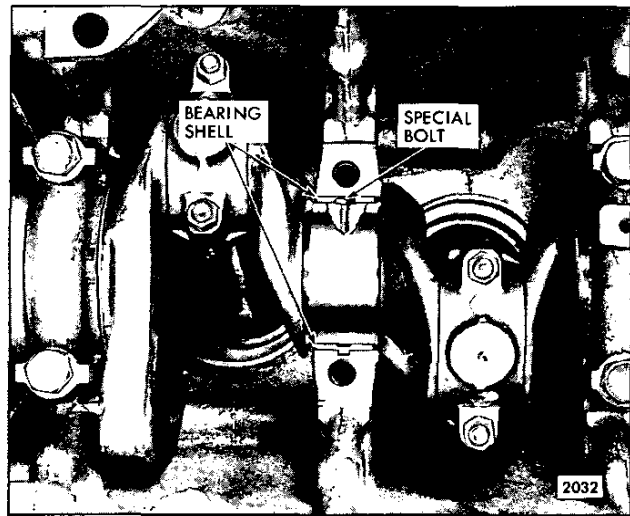

Fig. 4 – Removing Upper Main Bearing Shell
- a. To remove all except the rear main bearing shell, insert a 1/4" x 3/4" bolt with a 1/2" diameter and 1/16" thick head (made from a standard bolt) into the crankshaft journal oil hole. Then, revolve the shaft to the right (clockwise) and roll the bearing shell out of position (Fig. 4). The head of the bolt must not extend beyond the outside diameter of the bearing shell.